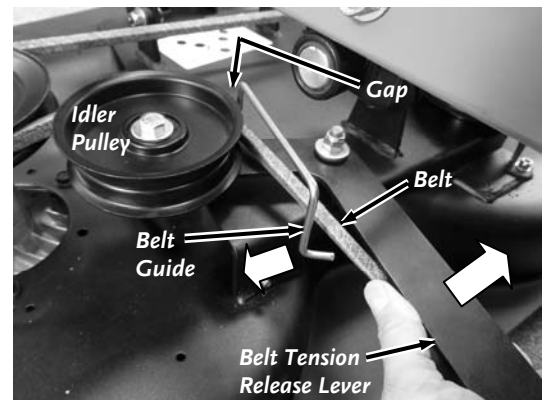

Figure 14
**NOTE:** Ensure that the Belt is routed properly through the Belt Guide, is between the Pulley and Guide (gap) and that the Hook portion of the Belt Guide is underneath the Tension Lever (**Figure 14**) when assembling.